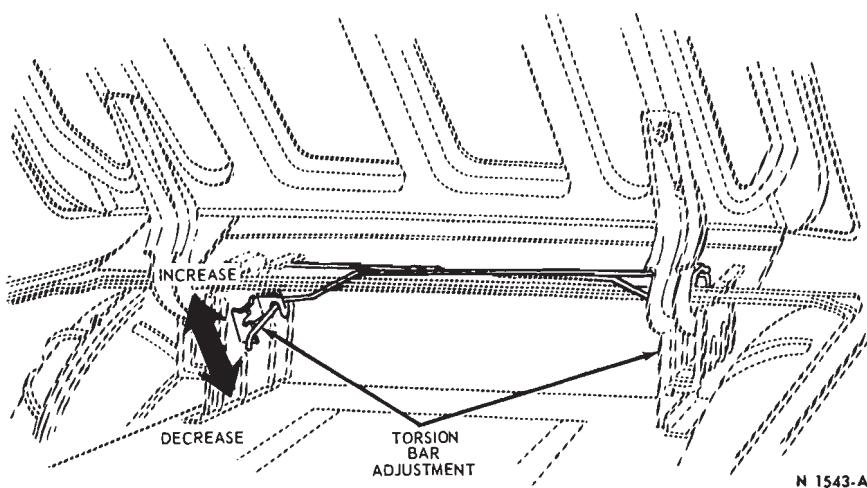

FIG. 6—Torsion Bar Adjustment—Lincoln Continental
7. To adjust the torsion bar tension on a Lincoln Continental, Thunderbird, or a Continental Mark III, slip Tool T65P-44890-A over the end of the torsion bar and position the bar in the next slot (Figs. 6 and 7). After torsion bar adjustment, the difference